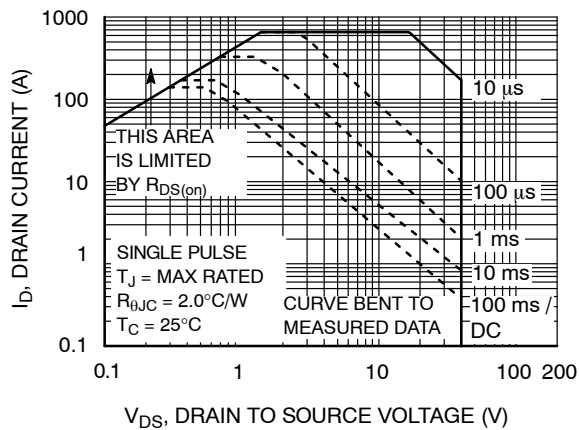

Figure 11. Forward Bias Safe Operating Area
- Pulsed I_d please refer to Figure 11 SOA graph for more details